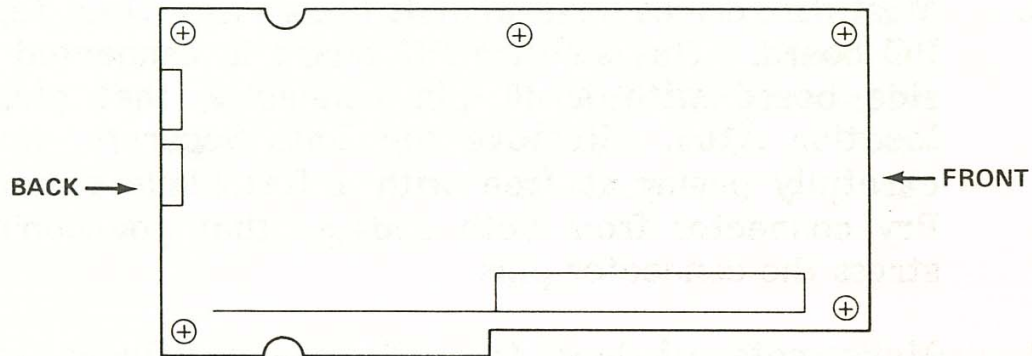

Figure 2-1. Drive Base Plate Mounting Screws
7. Remove the five phillips screws that secure the drive base plate to the base cabinet. Refer to figure 2-1.